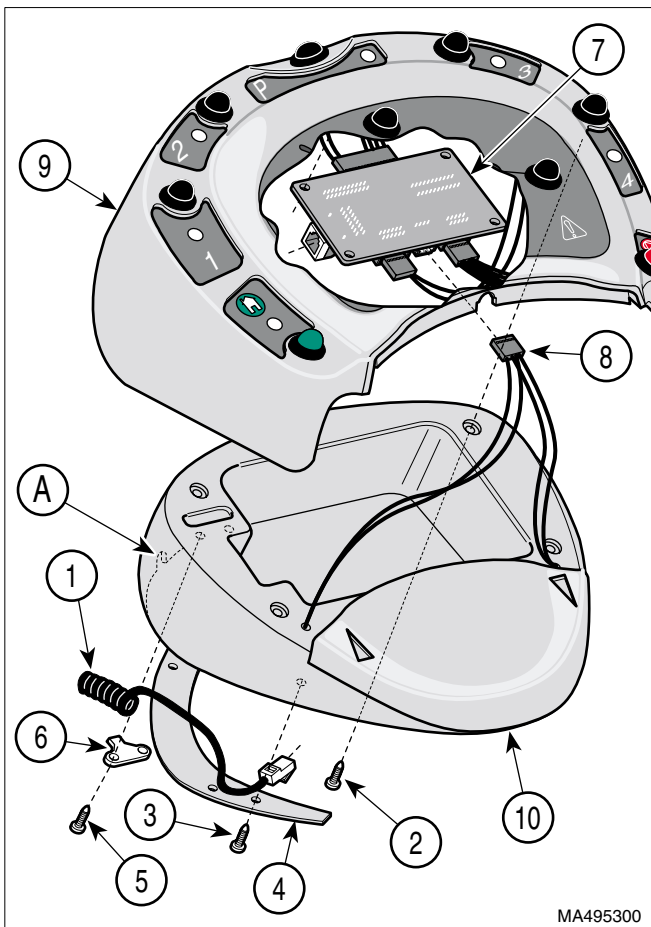

Figure 4-33. Foot Control Top Removal / Installation (Programmable)
- (1) Disconnect coil cord (1, Figure 4-33) from table.
- (2) Remove four screws (2), four screws (3) and bottom cover (4).
- (3) Remove two screws (5), and strain relief bracket (6).
- (4) Disconnect coil cord (1) from PC board (7).
- (5) Disconnect wire harness (8) from PC board (7) and remove foot control top (9) from foot control base (10).